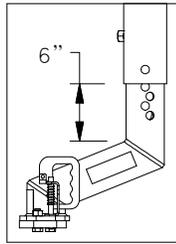

FIGURE A1: Extend-A-Goose coupler
**⚠ Installing the Extend-A-Goose with more than 6" of the coupler tube exposed past the end of the coupler sleeve could result in serious injury, or death, See figure A1**